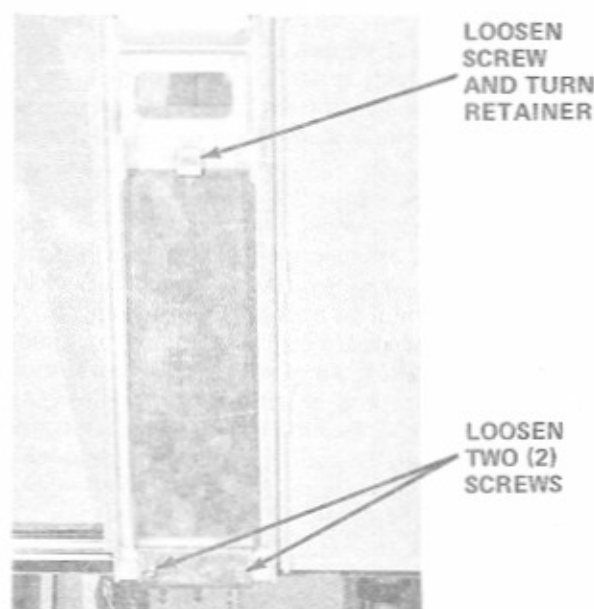

FIGURE 2-3. INSTALLATION LICENCE CARD
1. Loosen two screws holding bottom retainer as shown in figure 2-3.